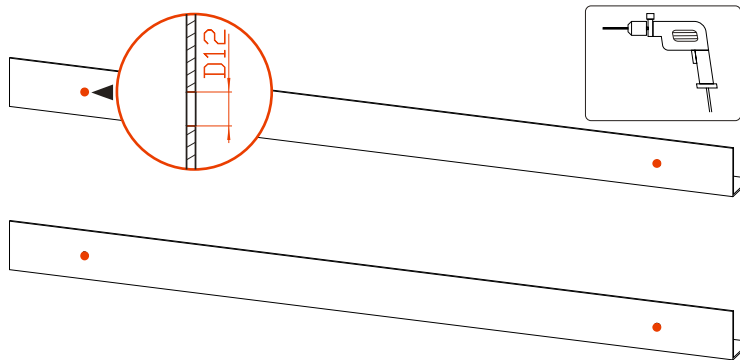

Figure3-14 Drilling holes (unit: mm)
- Step 3 Use the electric drill to drill holes on the bracket according to the marked position. The drilling size is $\Phi 12\text{mm}$, as shown in Figure3-14.